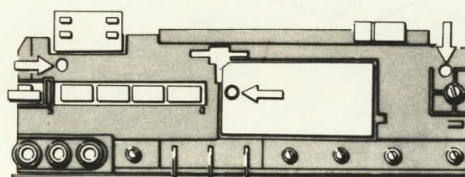

Fig. 8
- 2) Unfasten the three screws. (See figure 8)